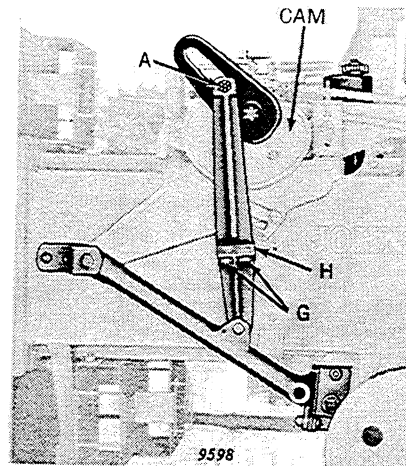

Figure 39
1. Turn flywheel by hand and raise needles until cam rollers "A", Figure 39, are on top of highest position on cam.
3. To change adjustment remove cotter pins and bolts "G", Figure 39, and add or remove shims "H", Figure 39. Remove the same number of shims on each needle lift link so that an equal amount of weight is distributed on each.